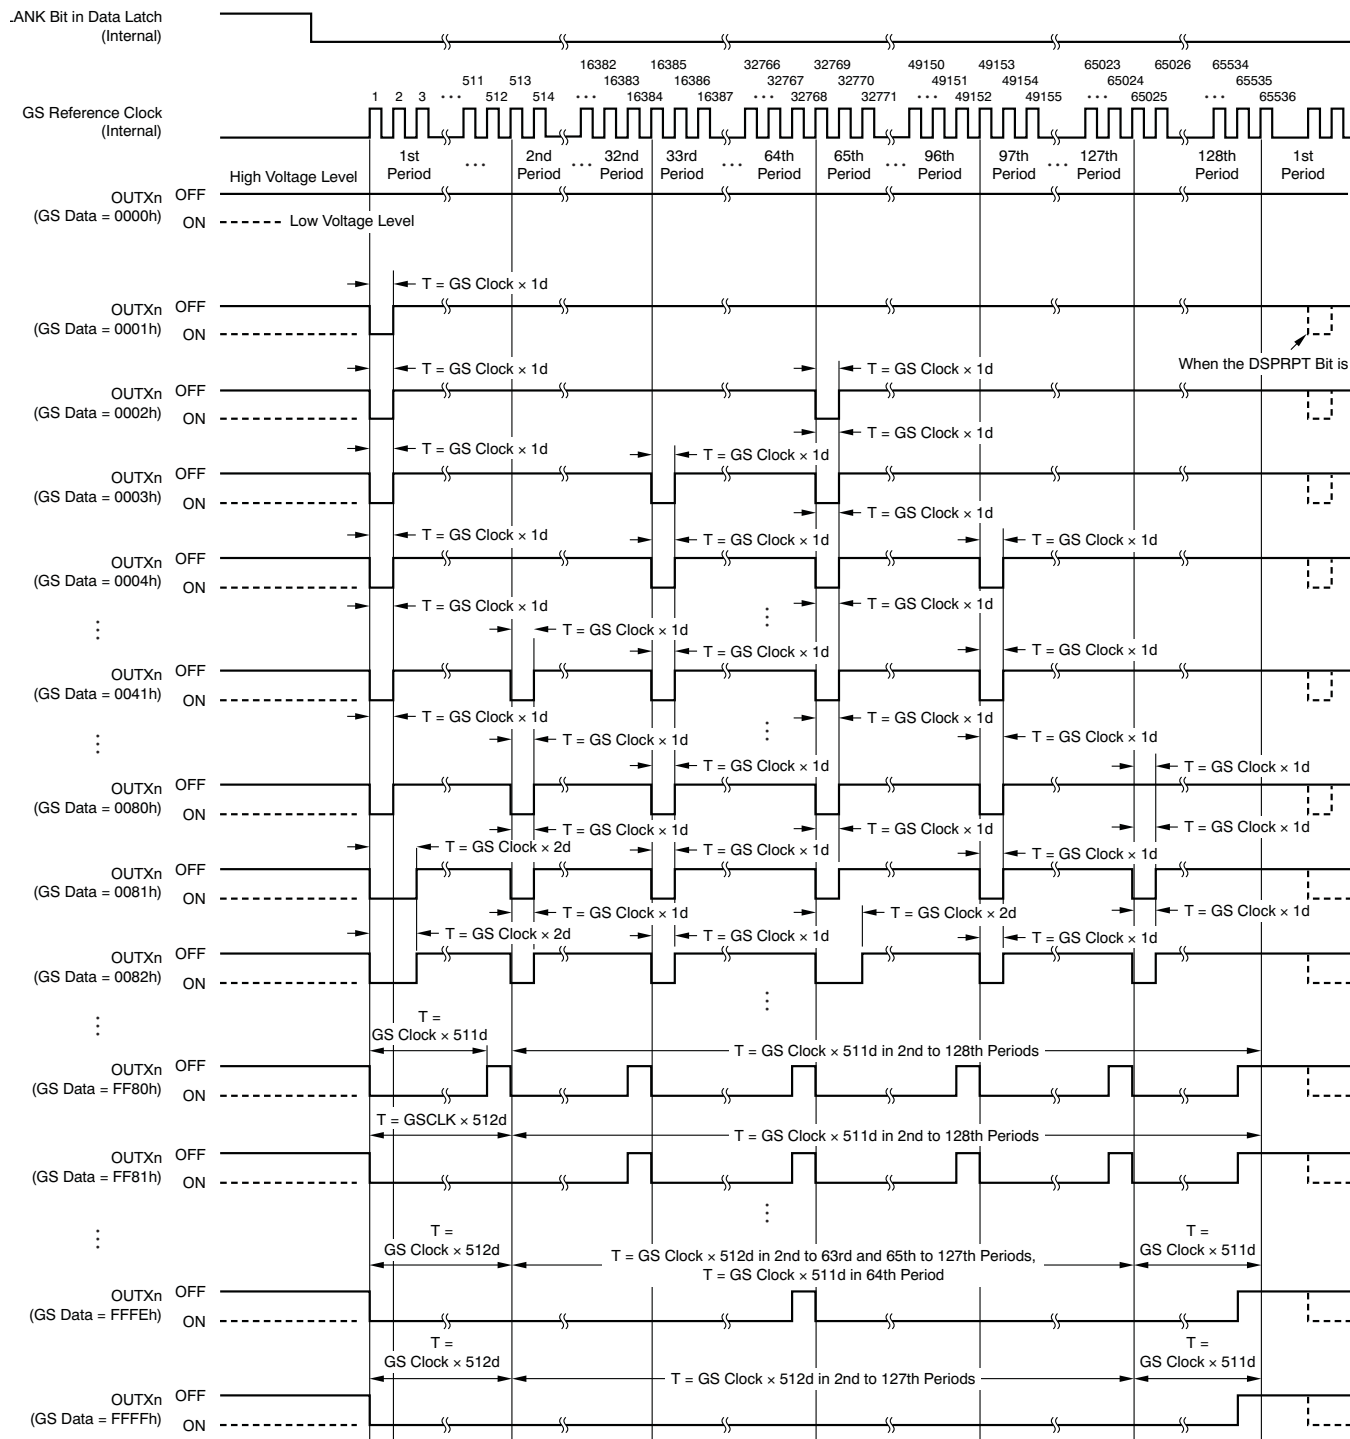

Figure 22. ES-PWM Operation
Enhanced spectrum (ES) PWM has the total display period divided into 128 display segments. The total display period refers the period between the first grayscale clock input to the 65536th grayscale clock input after BLANK (bit 213) is set to '0'. Each display period has 512 grayscale values, maximum. Each output on-time changes depending on the grayscale data. Refer to Table 4 for sequence information and Figure 22 for timing information.